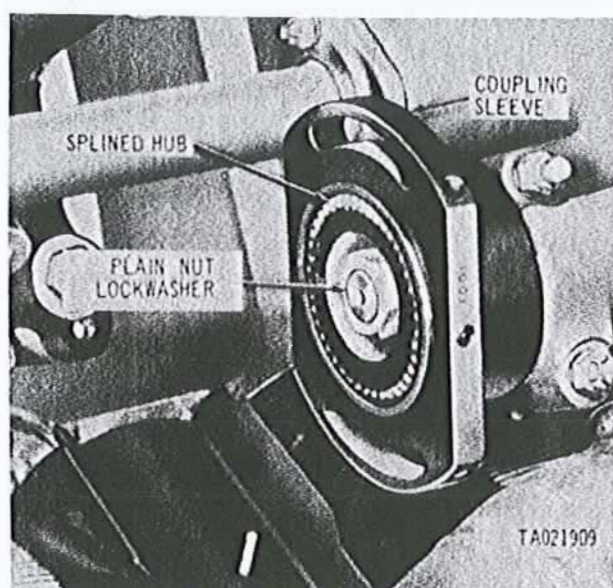

Figure 2-118. Removing or installing fuel injection pump coupling from gearshaft.
(6) Remove plain nut and lockwasher (fig. 2-118) attaching fuel injection pump drive coupling half to fuel injection pump spur gearshaft. Remove coupling sleeve splined hub and key using improvised puller (fig. 2-2).
pump coupling sleeve (fig. 2-118) on fuel injection pump spur gearshaft and install lockwasher and plain nut. Torque tighten nut to 900 pound-inches.